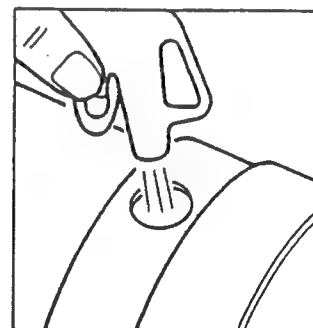

FIG. 9-3
- 3) Prepare dried compressed air (pressure: 1 kg/cm² or lower) and blow off carbon deposit produced due to wear. Any carbon deposit, which remains, will cause deterioration of insulation between grounding and result in motor failure. Therefore, thoroughly remove any such deposit (FIG. 9-3).